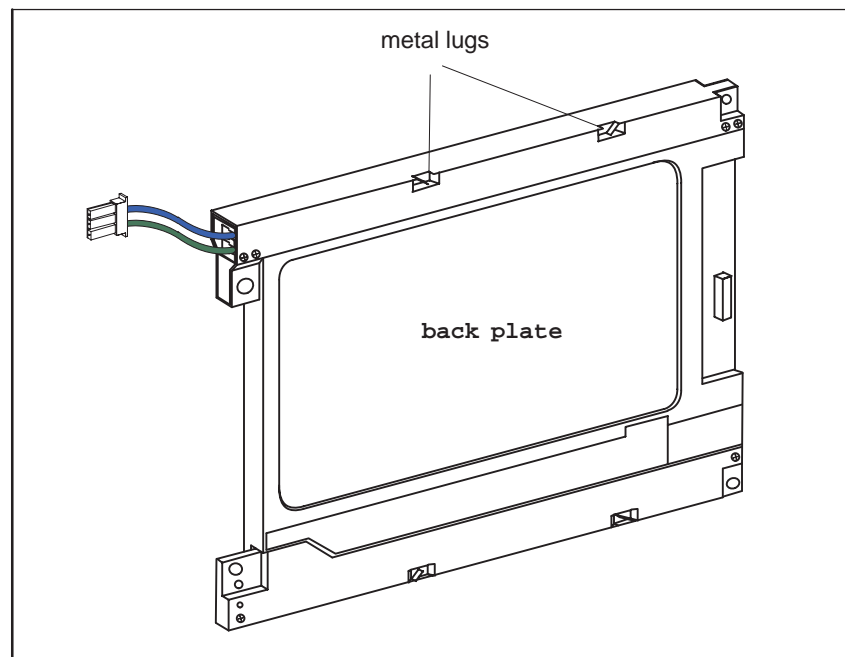

Figure 1-21 Metal Lugs on the Edge of the Display
- Align the 2 metal lugs at the top edge of the display (see Figure 1-21).